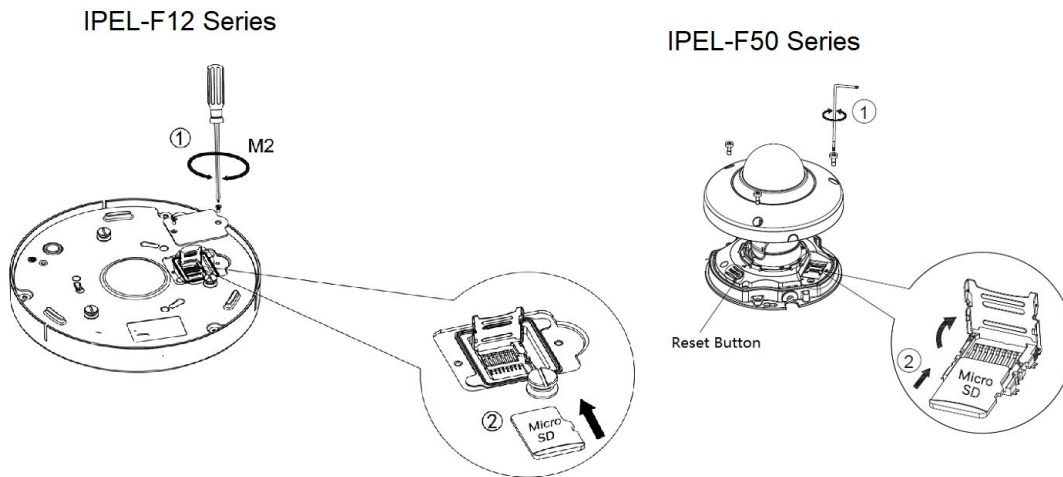

Figure 2-7
Step 2 Slightly press the RESET button for 15-30 seconds to complete the reset function. See Figure 2-7. The camera will reboot when the reset process is complete.
Step 3 (If installing SD Card) Adjust the Micro SD Card to a proper direction shown in Figure 2-7.